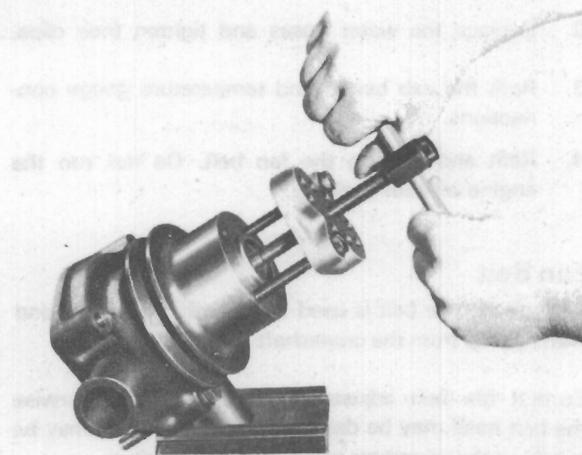

Fig. M.3.
2. Remove the water pump pulley from the front of the shaft. See Fig. M.3.